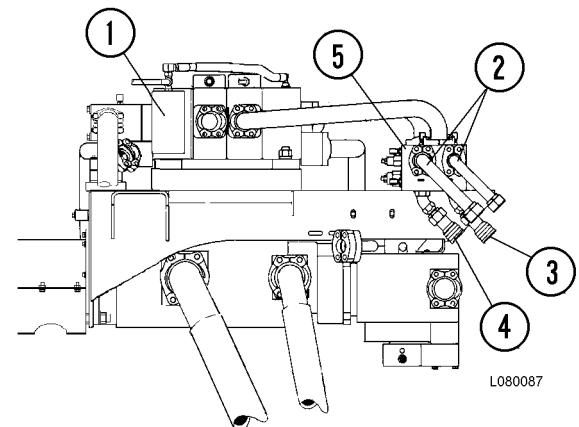

FIGURE 30-6. PUMP MODULE, HOSE HOOKUP
Quick disconnect fittings (3 & 4, Figure 30-6) are provided on the overcenter valve to allow operation of the hoist circuit for temporary truck operation if the hoist pump, hoist valve or other hoist system component is not operational. This will allow maintenance personnel to raise the truck body to dump the load before moving the disabled truck.
In the example, Figure 30-6 illustrates a typical hookup from the good truck. The disabled truck may be another Model 860E, or a different Komatsu electric drive truck model.
1. With the good truck parked as close as possible to the disabled truck, attach a hose from the **power up** quick disconnect (4, Figure 30-6) to the **power down** circuit of the disabled truck. The hose must be rated to withstand 17 000 kPa (2,500 psi) or greater pressure.